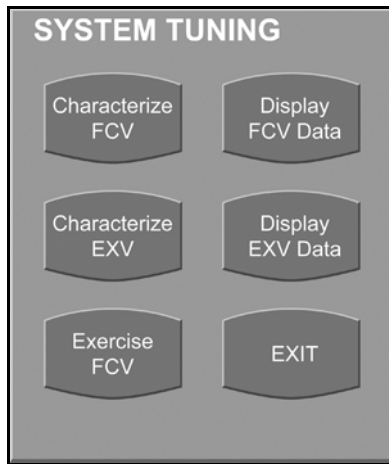

Figure 7.31
- After entering the password, select EXERCISE FCV icon (Figure 7.31).